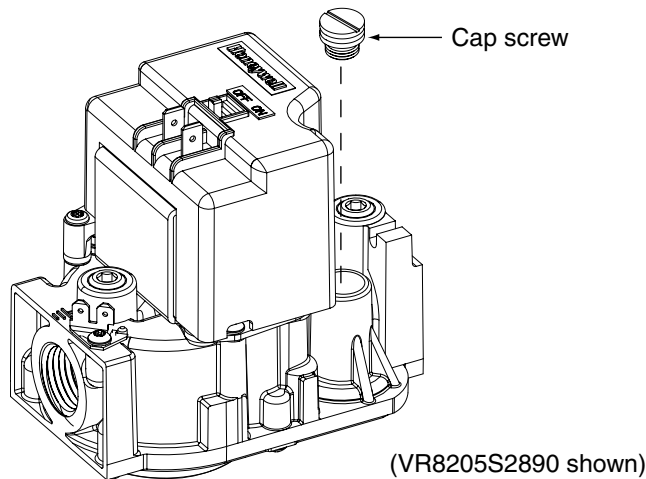
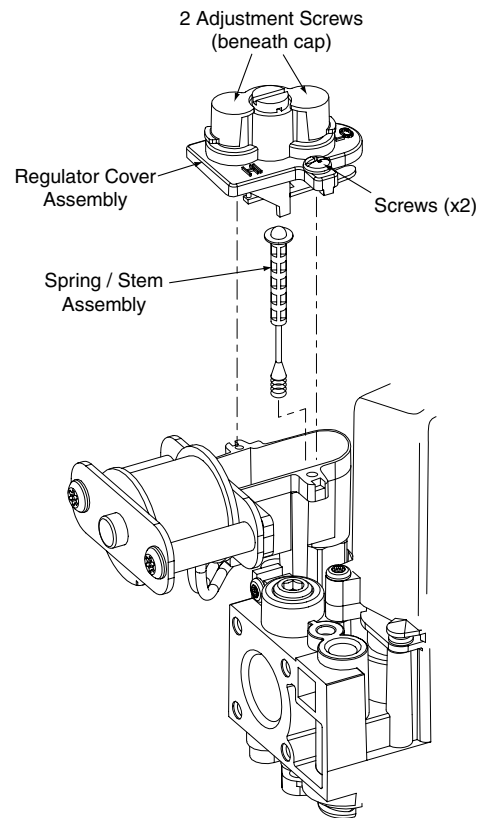

Figure 2. Cap Screw Removal
Figure 4. Spring / Stem Assembly Removal
1. Remove the cap screw from the gas valve as shown in Figure 2.
1. Remove two screws securing the pressure regulator cover assembly to the gas valve. Do not discard the screws. See Figure 4.
1. Single stage gas valve: Remove the cap screw from the top of the gas valve regulator. See Figure 2 (page 4) for VR8205S2890 or VR8215S1289 models.
- 2-stage gas valve: For VR8205Q2381 models, remove the plastic cap covering the adjustment screws (Figure 4 page 4).
2. Using a screwdriver or Allen wrench (where appropriate), slowly turn the adjustment screw till the appropriate manifold pressure listed in Table 2 is achieved. See Figure 2 for VR8205S2890 or VR8215S1289 models. See Figure 4 for VR8205Q2381 models or Figure 5 for VR9205Q11127 models.